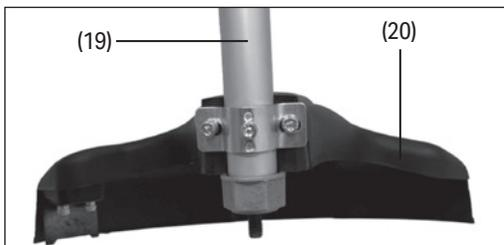

Fig.5
6.2 Fitting the Trimmer Guard (Fig.5)